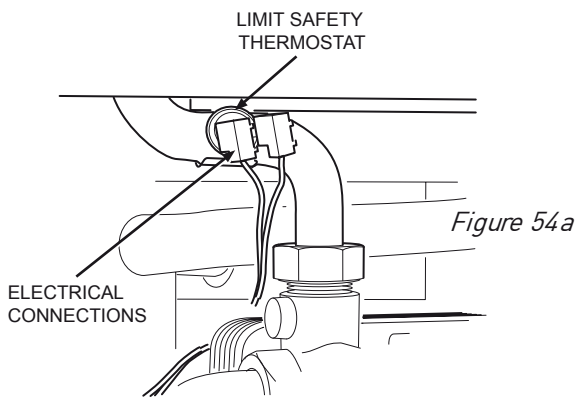

Figure 54a
- Locate the overheat safety thermostats at the front left handside of the boiler and on the right handside of the primary heat exchanger (Figures 54a & b)